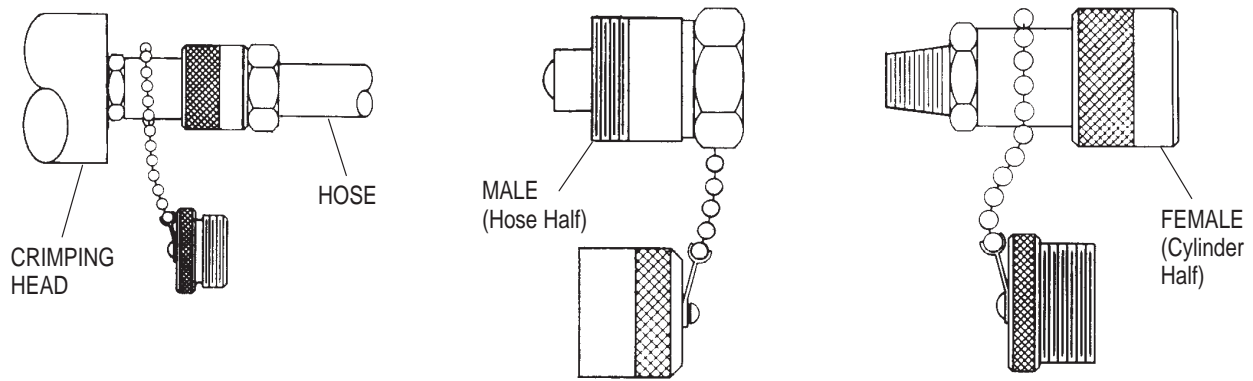

Figure 3-2. Crimping Head Coupling Attachment
3. Mate coupling halves and tighten collar. (Refer to Figure 3-2.)